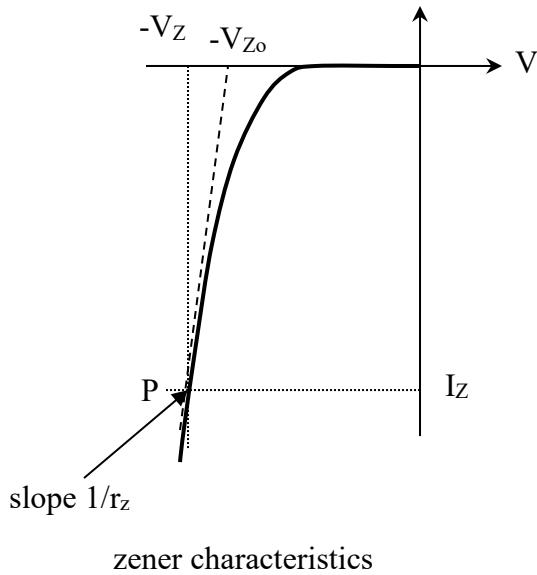

Fig. 4a: Zener diode V-I curve
The I-V characteristics in the breakdown region are shown in Fig. 4a.
- c. Plot I_Z against V_Z . For a value of $I_Z = -20$ mA, determine r_z and V_{z0} (Fig. 4a).